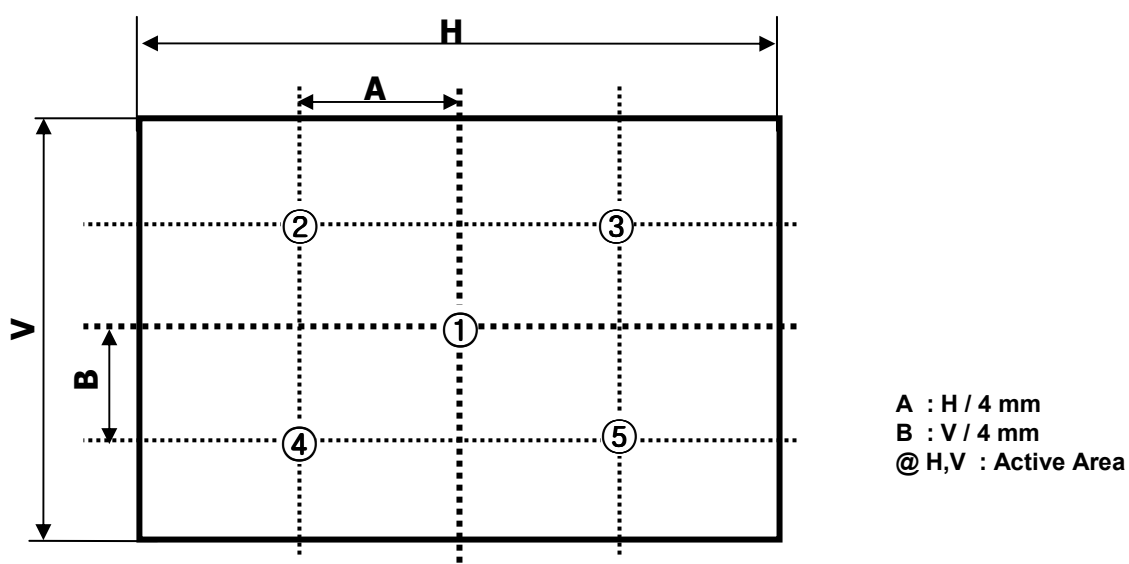

FIG. 2 5 Points for Luminance Measure
$$CR(Contrast Ratio) = \frac{\text{Maximum CRn (n=1, 2, 3, 4, 5)}}{\text{Surface Luminance at position n with all white pixels}} \\ CR = \frac{\text{Surface Luminance at position n with all black pixels}}{\text{Surface Luminance at position n with all white pixels}} \\ n = \text{the Position number(1, 2, 3, 4, 5). For more information, see FIG 2.}$$
2. Surface luminance are determined after the unit has been 'ON' and 1Hour after lighting the backlight in a dark environment at  $25 \pm 2^\circ\text{C}$ . Surface luminance is the luminance value at center 1-point across the LCD surface 50cm from the surface with all pixels displaying white. For more information see the FIG. 2.
For more information, see the FIG. 2.